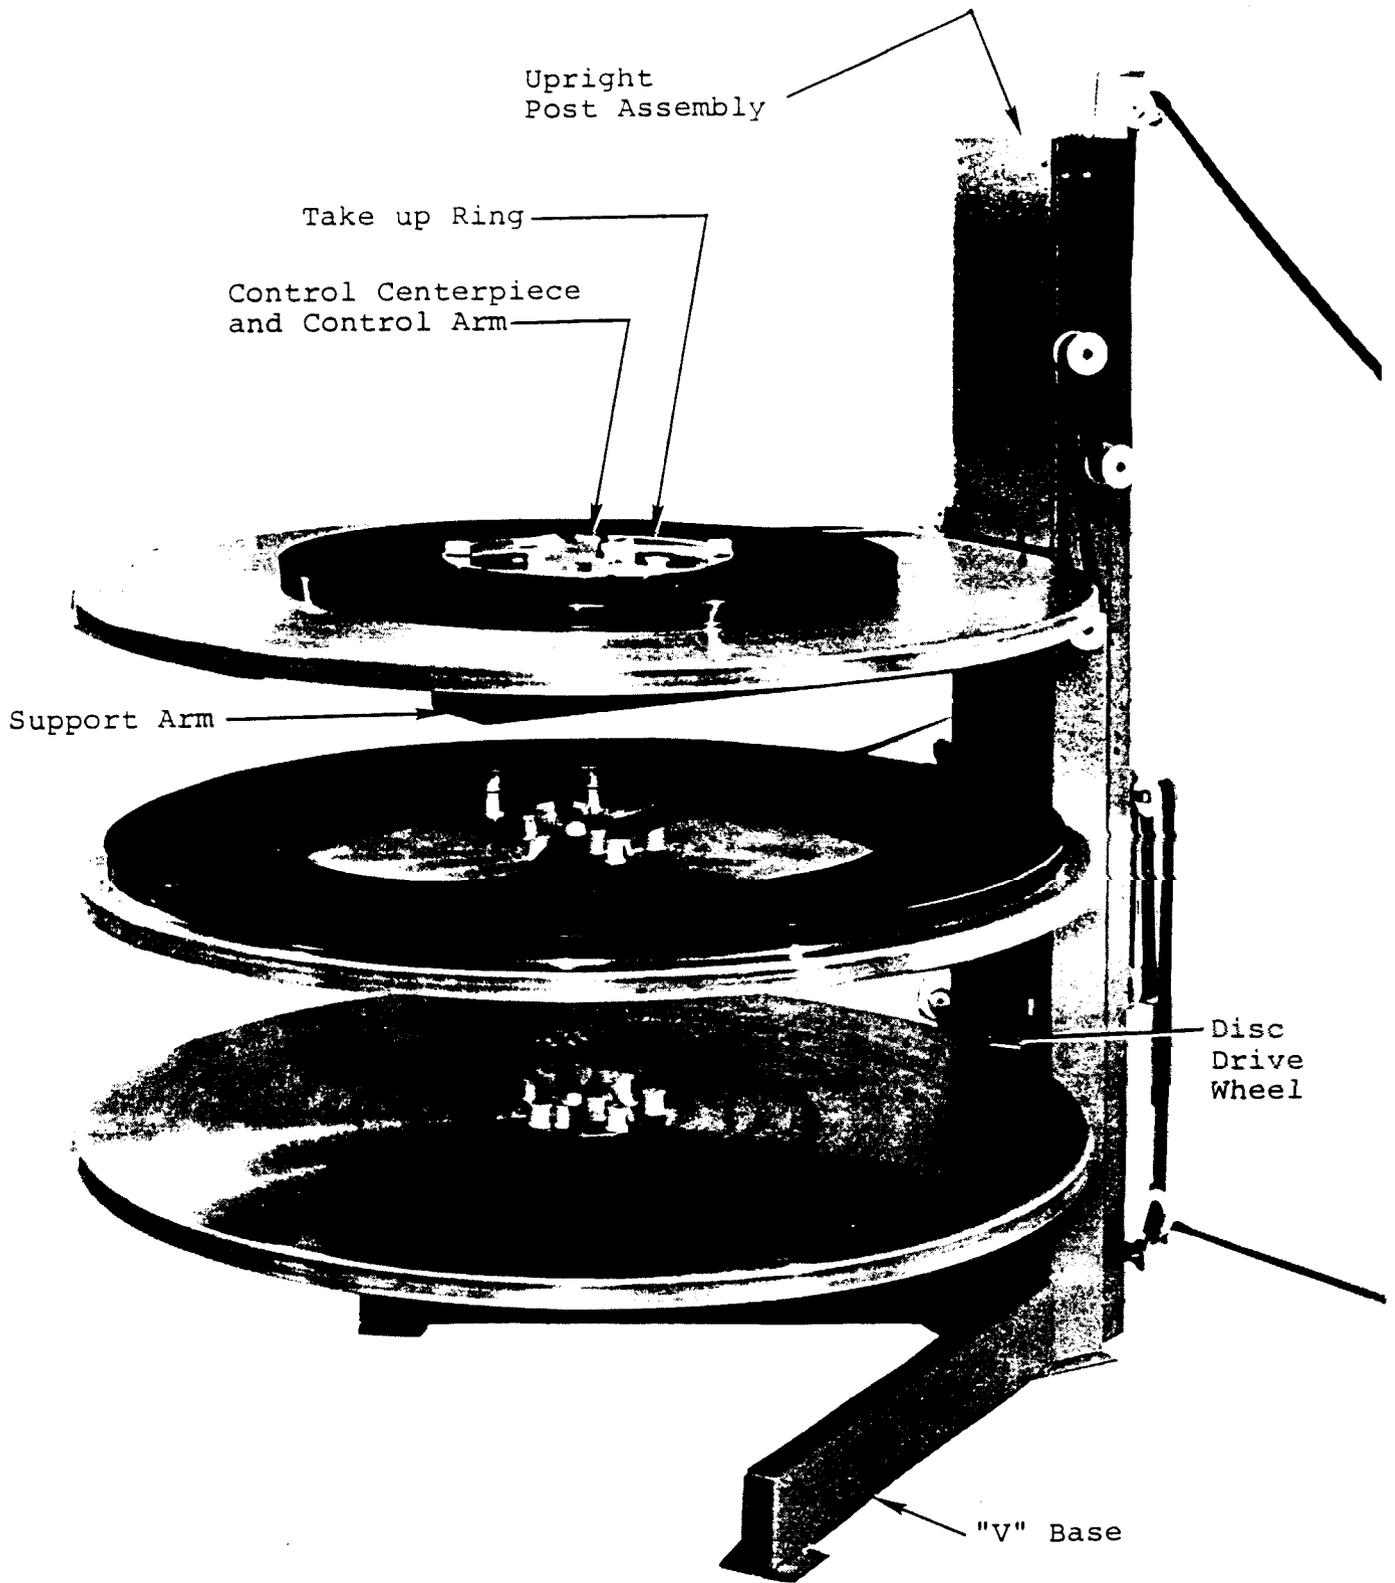

FIGURE 1-1A PLATTER SYSTEM
3.4 Install the infeed post roller with cad plated Allen head screws, and 1/2" spacer on the upright post assembly, as shown in Figure 1-1A.